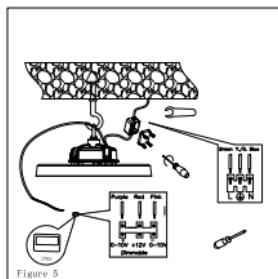

Figure 5
5. Connect your mains cable (H05RN-F3G1.0mm² Recommended) with the input lead of our product through the of junction box. Note the Line (-) of the lead. For dimming functionality, please connect as illustrated. (fig.5)